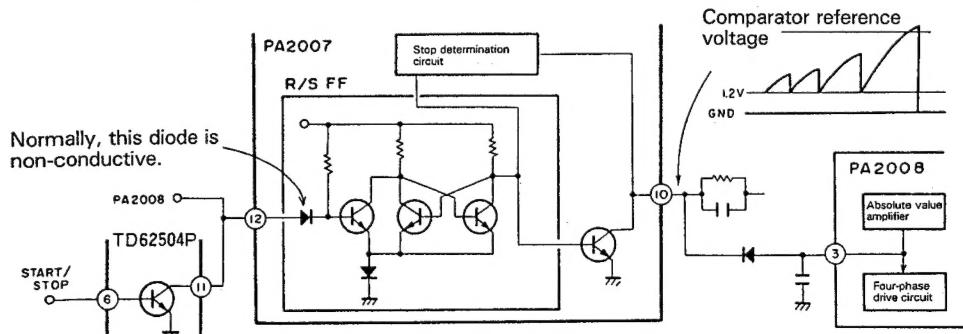

Fig. 10-13 Stop Determination Circuit Theoretical Circuit Diagram
- 2 . The stop determination circuit senses whether the rotational speed is high or low by means of electrical charge/discharge from C and R which are connected to pin ⑩ (To/STOP) of IC PA2007. When the rotational speed drops below a certain point, it sets motor torque to "0". Fig. 10-13 is a theoretical circuit diagram.